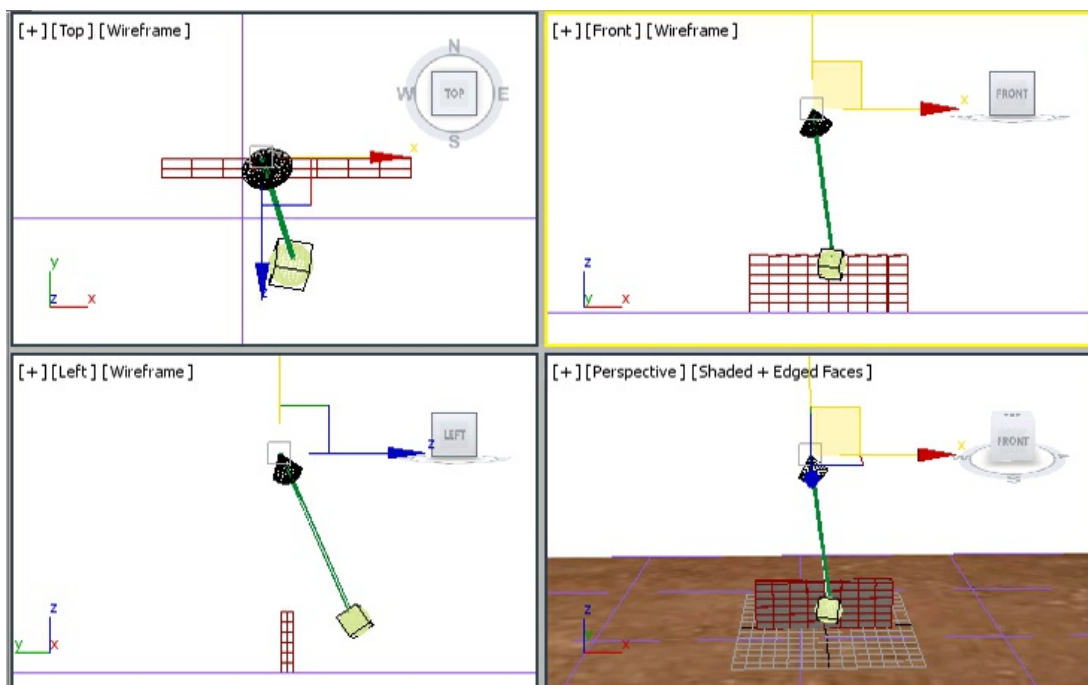

Figure 16-63 *Universal constraint aligned in viewports*
3. Align the universal constraint in viewports using the **Select and Move** and **Select and Rotate** tools, as shown in Figure 16-63. Next, choose the **Start Simulation** button from the **MassFX Toolbar** to play the simulation.